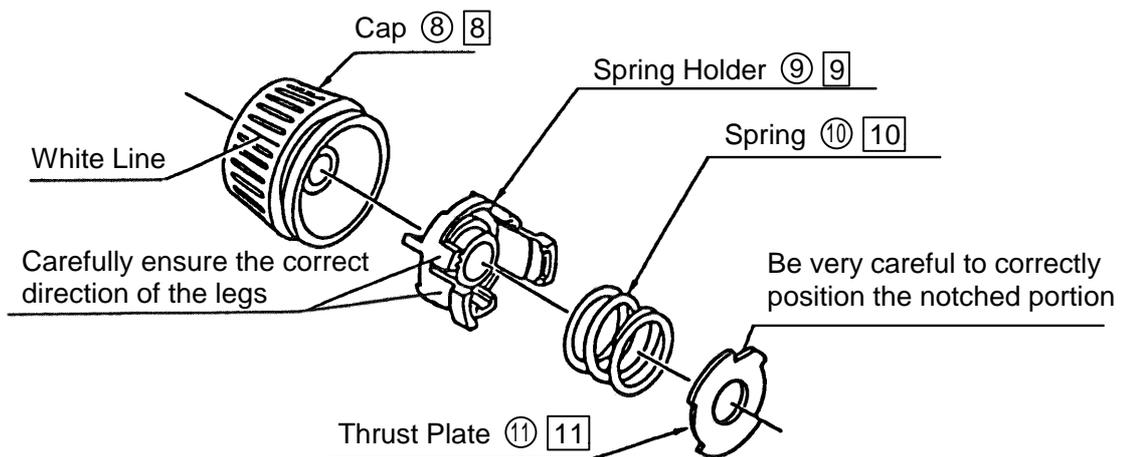

Fig. 6
- (7) When assembling the Spring Holder [9] [9] and the Thrust Plate [11] [11], special attention must be given to their positioning alignment with relation to the Cap [8] [8], as illustrated in Fig. 6.
Fig. 6 illustrates the correct positioning and alignment direction of the Spring Holder [9] [9] and Thrust Plate [11] [11] when the white line on the Cap [8] [8] is aligned with clutch position "1" on the Housing (A) (B) Set [26] [26]. At this time, the Spring Holder [9] [9] is inserted most deeply into the Cap [8] [8].
(8) As various kinds of washers are utilized, special attention must be given to ensure they are not mixed up or lost.